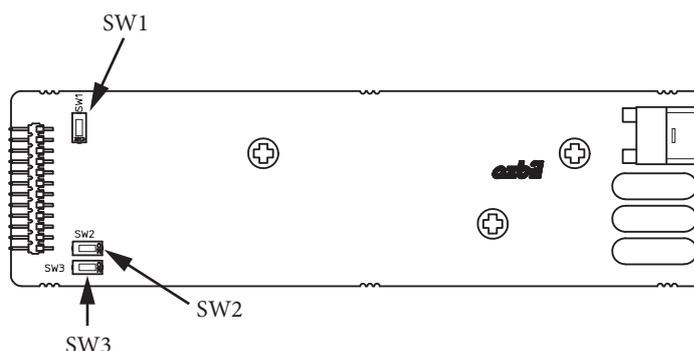

Fig. 7-2. Location of SW1, SW2, and SW3
- Hardware write protection ON/OFF: SW1 (→ Fig. 7-2)
- Burnout (B/O) ON/OFF: SW3 (Fig. 7-2)
- Burnout direction: SW2 (Fig. 7-2)